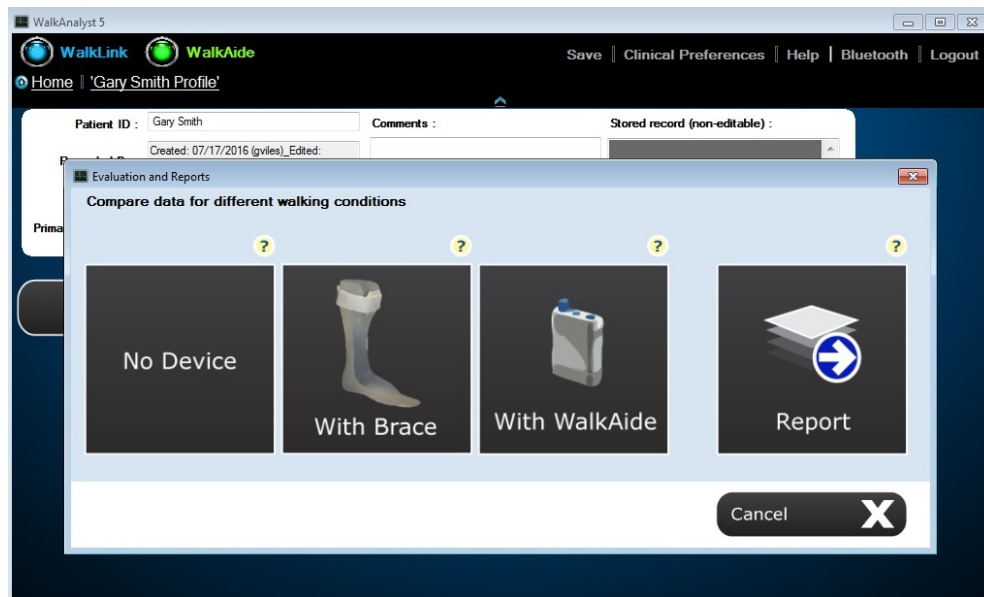

Figure 37: WalkAide Evaluation and Reports
- Save and Clear Log saves walking data stored in the WalkAide then clears it for further data collection. This option will save data, which can then be found under the Report Tab. (Figure 37)